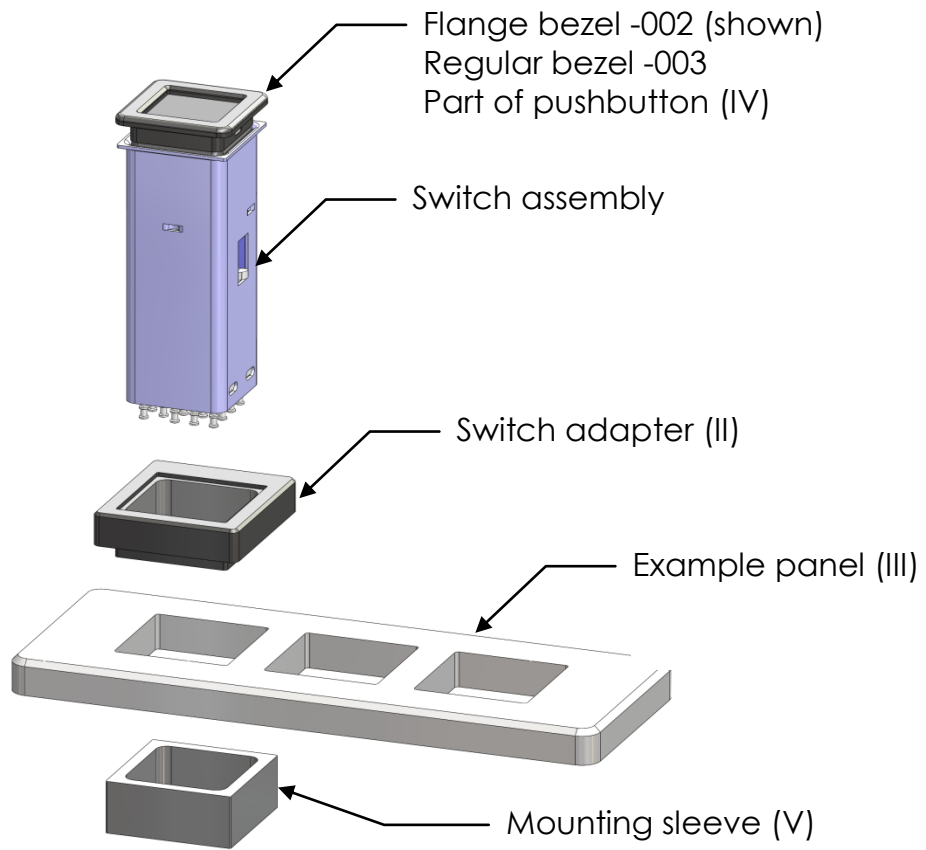

Figure 6: Exploded view, -002 and -003 configurations
- 4.1. Install switch adaptor (II) onto switch assembly (Figure 6).
- 4.2. Install adaptor and switch into panel (III) (Figure 6).
- 4.4. After installed into panel, add mounting sleeve (V) onto back side of panel around switch body. (Figure 6).